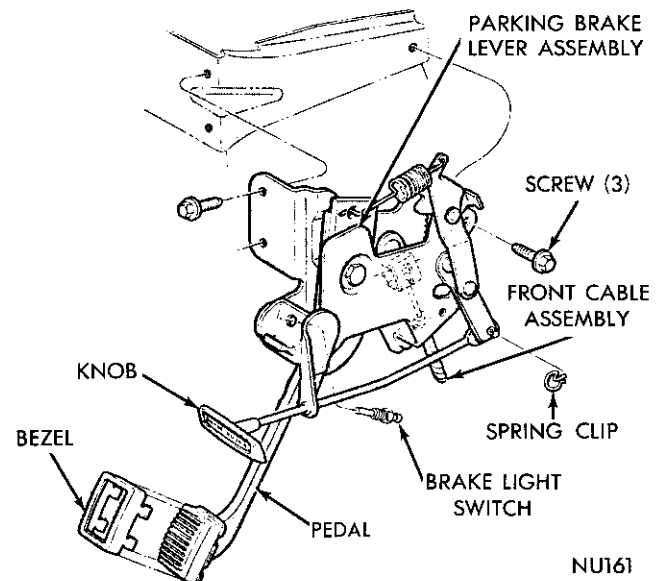

Fig. 2—Parking Brake Pedal
housing and remove cable from brake support. (Fig. 2), under "Wheel Cylinders."
- (1) Insert parking brake cable down through floor pan.
- (2) Install cable housing into underbody mounting bracket.
- (3) Insert end fitting of cable into parking brake clevis and force housing and retaining clip into pedal bracket assembly (Fig. 2).
- (4) Insert cable through crossmember and force housing and retaining clip into crossmember.
- (5) Attach cable to equalizer and adjust parking brake cable.
- (6) Apply brakes several times and test for free wheel rotation.
- (7) Test operation of vacuum release valve (Imperial only).